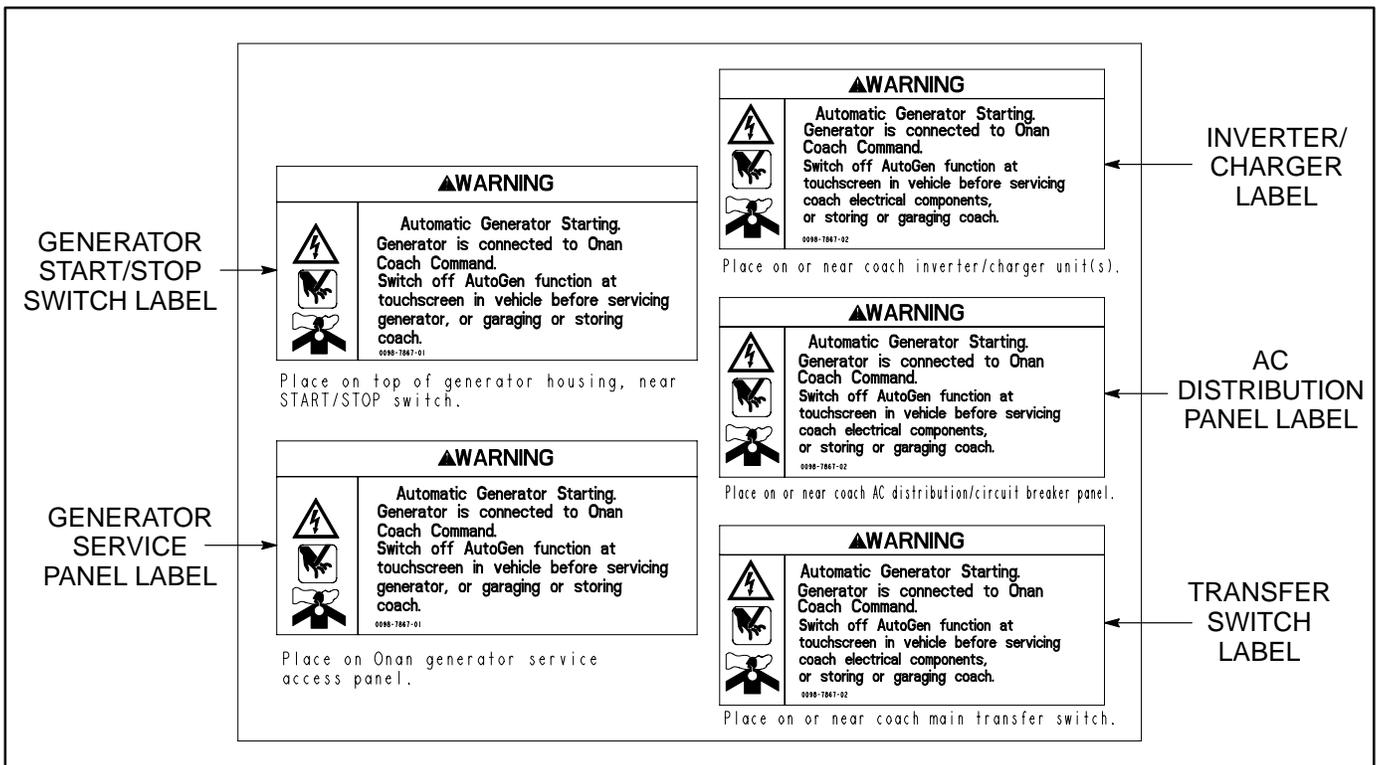

FIGURE 3-1. WARNING LABELS
14. Mount the Coach Command warning labels (Figure 3-1) in the locations indicated below. A sheet of five warning labels (Onan Part Number 098-7867) is included with the Coach Command literature.